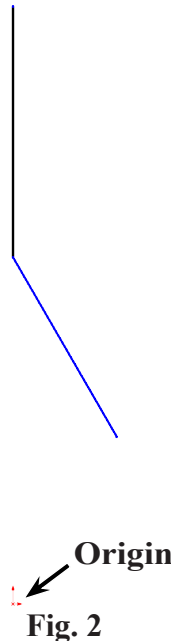

Fig. 2
Step 4. Sketch a line starting directly above the Origin  but do not sketch the line to the Origin, **Fig. 2**. Sketch a second line from bottom endpoint of first line at angle to the right. Do not bring the angle line down to Origin.